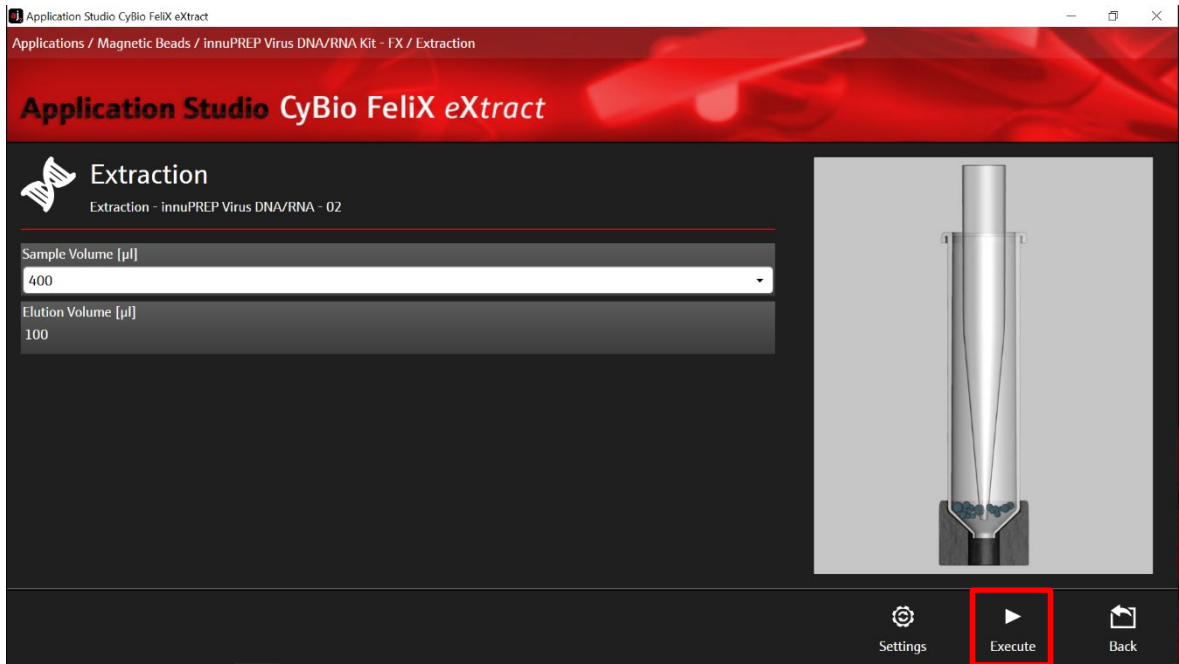

Figure 32: Selection of sample volume (400 µL) and elution volume (variable).
6. After selecting "Extraction" the Extraction Start Screen appears (→ see Figure 32).
8. Select the protocol by choosing the corresponding sample volume (400 µL) and adjust elution volume (between 50–200 µL, 100 µL are recommended) (→ see Figure 32).